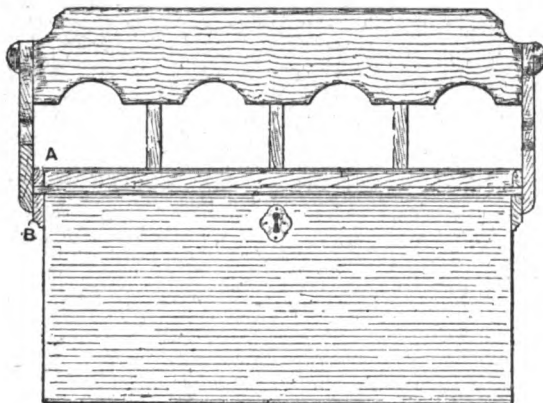

Fig. 1
**Converting Sea-chest to Settle.**—In converting a sailor's sea chest 3 ft. 3 in. long and 1 ft. 3 in. wide, having an overlapping lid, to a settle having removable arms and back, the projections of the lid may be made the chief means of fixing the arms and back. In the design here shown the elbow-pieces are of 1-in. board, and, as will be seen by Fig. 1, two strips of  $\frac{3}{4}$ -in. wood (A and B) are screwed along the bottom of each elbow-piece, thus forming grooves which will slide over the projections; two small gimlet holes bored through the strips B and the ends of the chest, and fitted with metal pins,
will hold all firm, or, when the pins are taken out, will allow of the ready removal of the whole superstructure by sliding it backwards. The back rises 15 in. above the chest, the elbows rise  $9\frac{1}{2}$  in. The shaping of the latter is shown in Fig. 2. The back (Fig. 1) has two rails of  $\frac{3}{4}$ -in. board. The lower rail, which rests on the top of the chest, is 2 in. wide, the upper rail is 8 in. wide; openings are cut for their ends in the backs of the elbow-pieces C and D (Fig. 2), in which they are strongly screwed. Fig. 3 shows one of the upright supports of the back. These supports are of 1-in. board 18 in. long. They are screwed to the two rails, and when strain is thrown on the upper rail, the lower ends of the uprights, pressing against the chest, will support it as by leverage. Screws through these pieces into the back of the chest would give still greater strength, but this would render the removal of back and arms less easy, and would scarcely be needed.